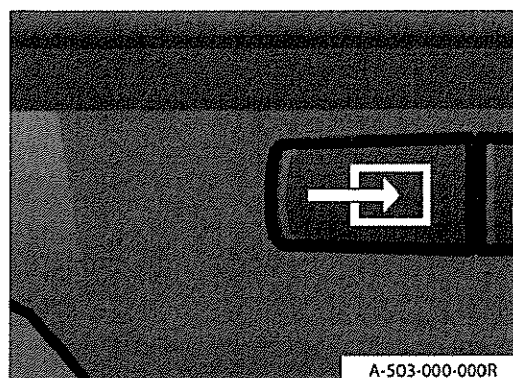

Fig 29 Dashboard menu button
71.4 Refer to Fig 29. Call up vehicle menu on the driver's display, select Diagnosis and Check lamp test. The Dual LED red menu option appears.